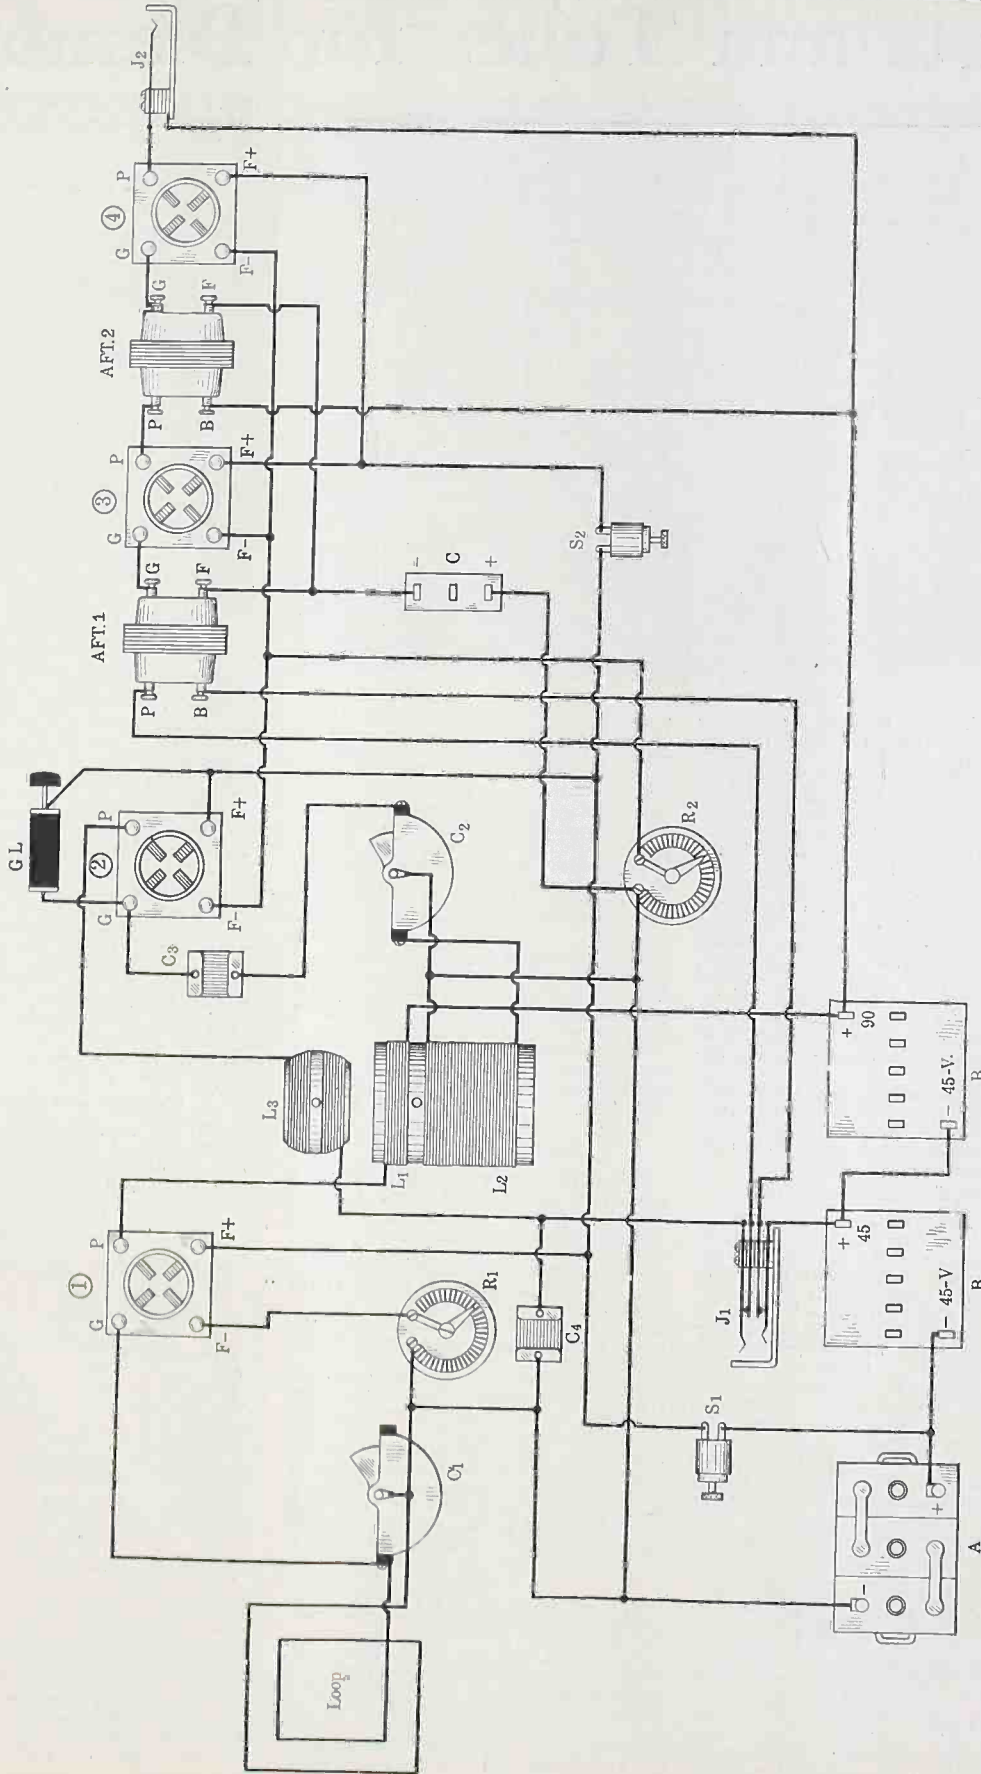
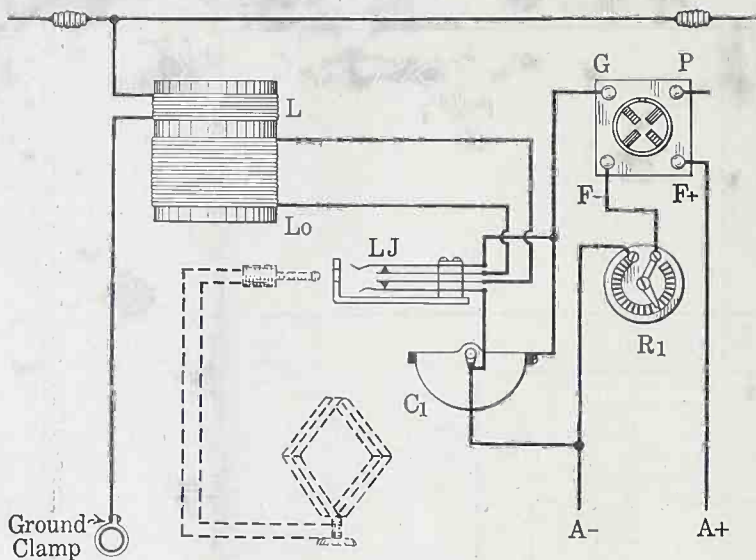

FIG. 1, the circuit diagram of The Diamond of the Air, shown in picture form, for the especial benefit of novices desiring to construct this efficient receiver.
FIG. 2, how to use a loop jack.
FIG. 2 (top), the panel layout, showing the RF condenser dial at left, tickler dial in center and detector dial at right. The loop jack J1 is at left, the audio jack J2 at right, while the switch is under the detector dial. Fig. 3 is a rear view of the receiver, showing the constructional layout.
FIG. 2, showing the inductive receiver with a carborundum detector, but hooked up in a different fashion from Fig. 7. The crystal detector is shunted across the variable condenser, and there is no fixed condenser shunted across the phones. The constants are otherwise the same as on Fig. 7.
As to the various types of crystal rectifiers, there are some detectors that function very well without a local battery. These are galena (most sensitive, but most difficult to keep in adjustment); silicon, (very good when a good piece is found, which is very difficult to do, adjustment much easier than that of galena); iron pyrites (best as far as sensitiveness and ease of adjustment are concerned, also easy to obtain); zincite bornite (a peculiar type of crystal detector, the bornite being the catwhisker, the zincite being in a holder. The zincite-bornite may be found to work sometimes better with a small battery, provided a high-resistance of approximately 1,500 ohms is connected in series with the battery and potentiometer (Fig. 2).
Fig. 1 shows the wiring of the loop set in picture form. As many novices may be desirous of constructing the receiver, they may follow this diagram with ease. The only point requiring stress is that correct polarities should be respected. Look at tube No. 1 in this diagram. The plate goes to the beginning of L1, the aperiodic primary of the 3-circuit tuning coil, the end of that winding to B plus amplifier voltage (90). Now look at the secondary, L2. The beginning of that winding goes to A minus (not to grid, as is commonly done in error). Thus the low potentials, the batteries, are side by side. If for wiring convenience (due to special location of parts) it is easier to connect the RF plate first to the end of L1, then the adjoining terminal (of secondary), rated as the beginning, goes to grid. Thus high potentials are kept together. Either way is correct. It will occur to some that two like potentials must necessarily be far apart in either case, the two high ones in the first instance, the two low ones in the second. That is inevitable, unless perhaps some manner of coil winding not now prevalent is used. Being so far apart, the beginning of L1 and the end of L2 may well be of like potentials. The vice lies in having them conflict where they adjoin,
The wiring as shown in Fig. 1 is drawn for greatest ease in reading, hence the potentials are correctly shown. The tickler is so positioned that its windings are parallel to those of the secondary L2. In both instances the beginning of the winding must be regarded as the upper terminal. In some coils it may be a little difficult to tell offhand just where the tickler connections go, because pigtail leads are brought through a tiny tubing, the actual connections to tickler winding terminals being obscured inside the tubing. If after a little effort the question is not settled to your satisfaction, then simply connect either fashion temporarily and test for better results by reversal of the two external leads. Another possible complication, that of a pancake tickler, may be solved in the same fashion.
The polarity question again arises when connecting variable condensers. Low potential is connected to the grid return. The grid is high potential and goes to the stator plates. The grid return is A minus in both instances, on the coil side, although if a grid leak is used (GL in Fig. 1) the manner of connection, from grid post to A plus on the detector tube socket, imparts a slightly positive potential to the detector grid.
The type of the detector tube used governs the grid return. The Sodion D21, requiring a 6-volt battery, functions well when connected to negative, even with no leak in use. Therefore with this tube one may omit the leak and has the option of trying a positive connection of L2 itself for possibly better results. If the UV200 or C300 is used as detector, this, too, will operate well on a negative grid return. All other tubes usually do better work as detectors when the grid return is to positive. Therefore if one uses UV201A, C301A, etc., throughout, one should follow the diagram as in Fig. 1, including the variable grid leak GL, although the detector input coil L2 has one terminal connected to negative A. This may be joined instead to positive A if the set shows any sign of instability, for thereby the positive potential is increased slightly. The same advice applies to WD11, WD12, C199,
The tubes in Fig. 1 are numbered, left to right, in the order in which they will appear on the baseboard when one is facing the panel. The designations are: 1, RF tube; 2, detector; 3, first audio, and 4, second audio. The first audio transformer is AFT1 and should be of the higher ratio, if two transformers of different ratios are used, so as to avoid overloading the last tube. The second audio transformer is AFT2. J1 is the single-circuit jack for detector tube listening in and J2 is the single-control jack for plugging in the speaker. R1 is a rheostat controlling the RF tube exclusively, while R2 actuates the detector and the two audio tubes. This is a good arrangement, since the audio tubes are not critical, and what will be the correct filament heating point for the detector will do very nicely for the audio. But do not burn any tubes more brightly than absolutely necessary.
The detector plate voltage should be about 45 in most cases for best volume, but may be less by choice. More is scarcely ever justified, unless resistance or impedance coupled audio is used. For the amplifiers (one RF and two audio), a plate voltage of 90 will serve very well, with a negative grid bias of  $4\frac{1}{2}$  volts for the two audio tubes, if UV201A or C301A are used. Do not hesitate to try a lower grid biasing voltage no matter what type of tube is used, even less plate voltage on the RF amplifier. Often 45 volts on the RF tube plate, 45 on the detector,  $67\frac{1}{2}$  on the first audio (B on AFT2), and 90 on the final audio output work very nicely. This should be tried by those who find the set produces so much volume that the speaker rattles, for the lower plate voltage has a tendency to overcome this. Also considerations of B battery economy may impel some to adopt this lower plate voltage. For  $67\frac{1}{2}$  volts use the 3-volt C battery tap. Those who want utmost volume, hang the expense, should adopt the voltages shown in Fig. 1.
Fig. 2 shows how an aerial tuning coil is included in the circuit, with a jack (LJ) to enable one to plug in a loop. Those who have no present desire for loop operation should nevertheless include the loop jack and wire the first stage RF stage as shown in Fig. 2, continuing the wiring from the output of tube No. 1 by reading Fig. 2 into Fig. 1. This will prove very easy after a few moments' consideration. Only when the loop plug is inserted in LJ is the outdoor aerial, ground and RF coupler cut out. You will notice from Fig. 2 that the insertion of the plug lifts the outside springs off the inside ones, hence cutting off the secondary L, "and all that goes with it."
For exclusive loop operation, with no provision for cutting in an outside aerial, the loop terminals may be connected directly to the sides of the condenser C1, as in Fig. 1. But here, too, it is the better part of wisdom to provide the aerial tuning coil, or at least do the wiring with the jack LJ included, so a sudden desire for outdoor aerial use may be appeased.